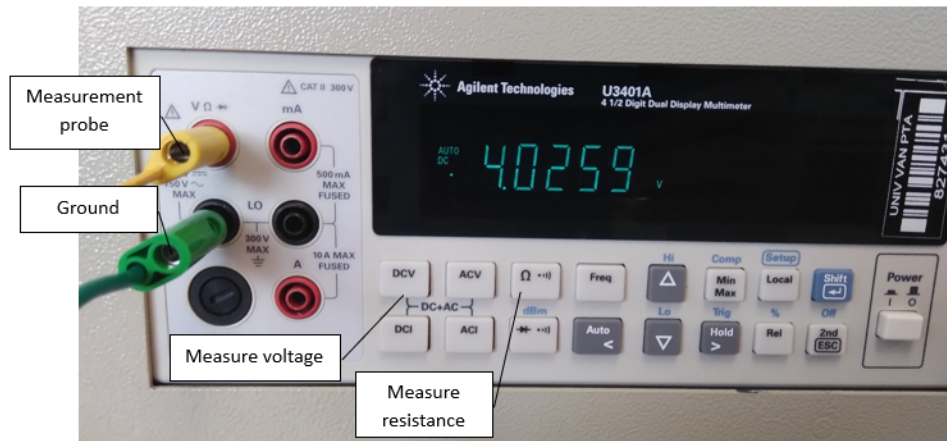

Figure 89: Connectors attached to the multimeter to measure voltage.
6. The multimeter is set up using the cables as shown in Figure 89. The other ports are used for measuring current and will not be used for practicals in EBN 111. The 'DCV' button is pressed to ensure that the measured voltage is displayed. The ' Ω ' button can be used to measure the resistance between two points of a circuit.